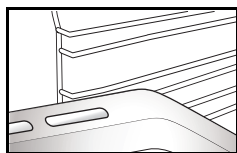

Fig. 2
2. The other accessories, like the drip tray and baking tray, are inserted with the same way as the wire shelf (Fig. 2).